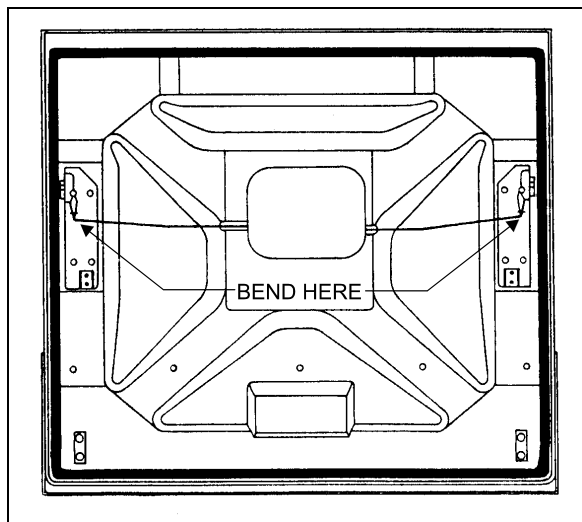

FIGURE 62: BAGGAGE COMPARTMENT DOOR 18067
4. With door slightly open, pull door handle while an assistant checks that both latches release simultaneously. If not, with latch engaged, gently bend the appropriate latch control rod until proper timing is achieved (Fig. 62).